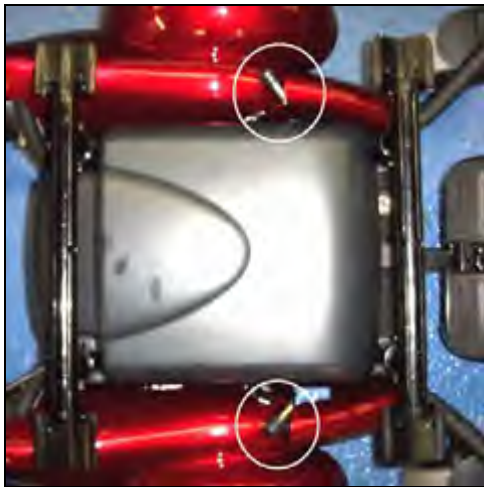

Figure 18
- ◆ To disengage the gears and put your power chair in freewheel mode, turn the freewheel levers as shown. See figure 18.